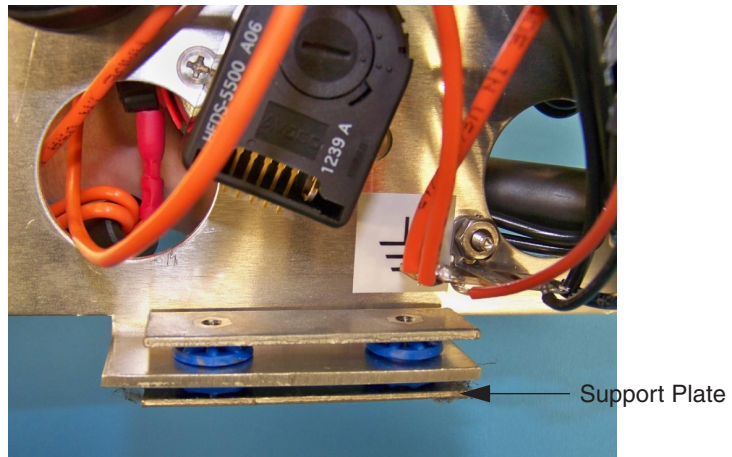

Figure 9-25 Support plate
8. The small support plate on the bottom of the mounting plate is adhered with doubled sided tape. Remove the support plate and set aside for now. It will be reused when the motor assembly is reinstalled into the case (Figure 9-25).
1. Install the small support plate on the bottom of the blue motor mounts so the adhesive side is against the rubber mounts (Figure 9-25).
4. At this time verify that the small flat support plate is still in place under the motor assembly and is aligned with the holes in the motor mounts (Figure 9-25).